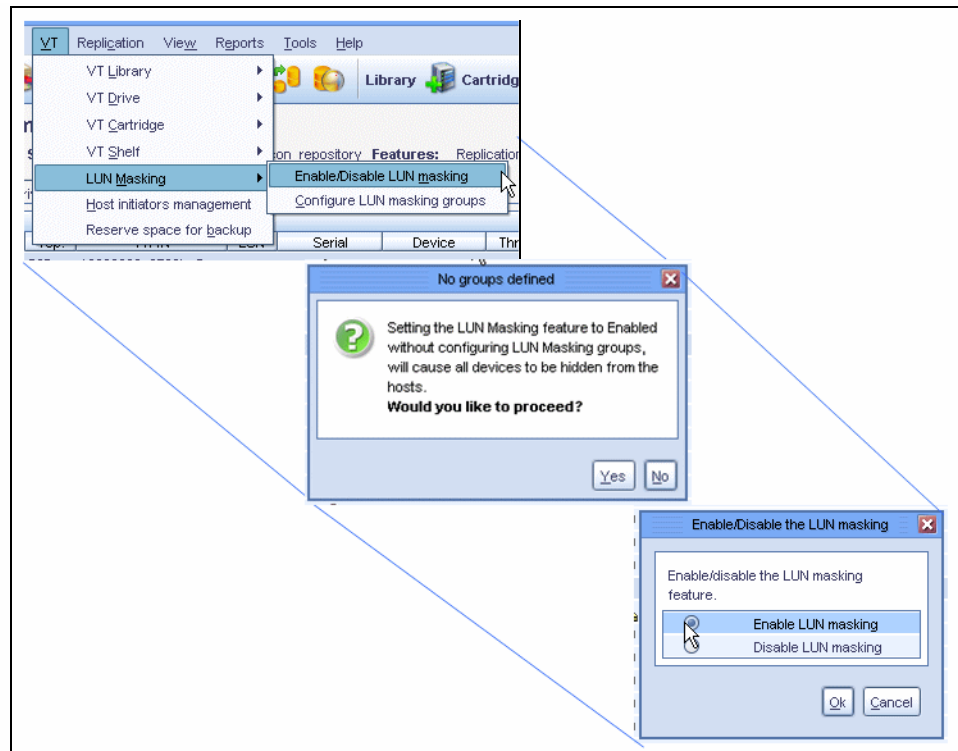

Figure 6-9 Enabling/Disabling LUN masking
3. When the Enable/Disable LUN masking window opens, select **Enable LUN masking**, and click **OK**, as shown in Figure 6-9.